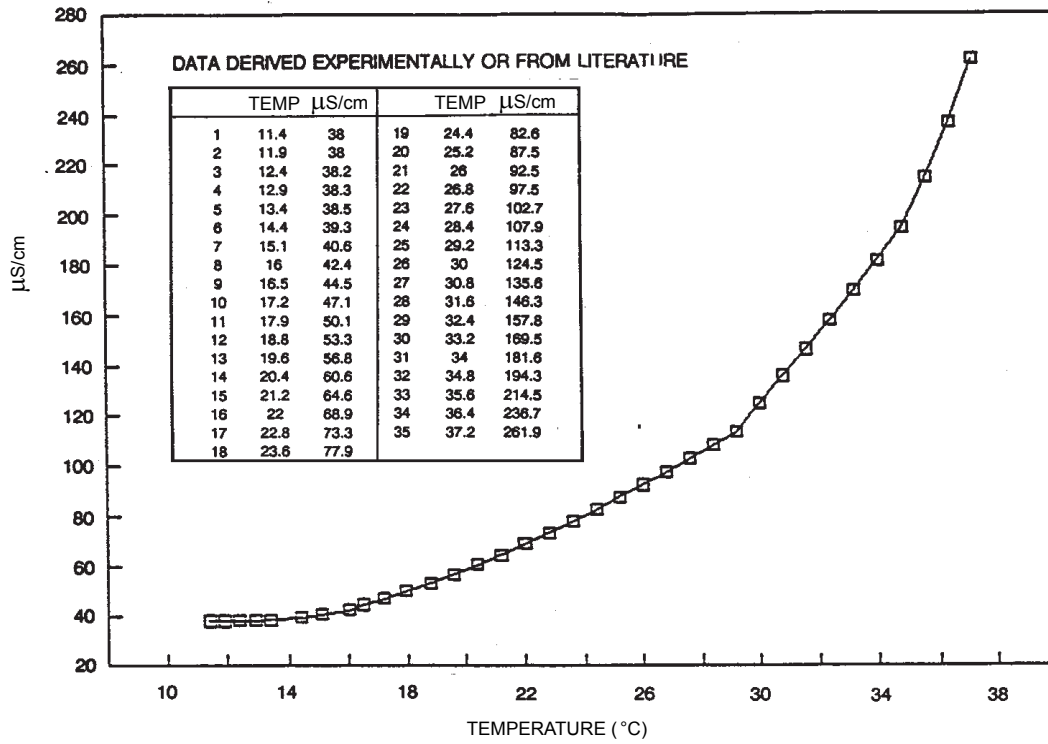
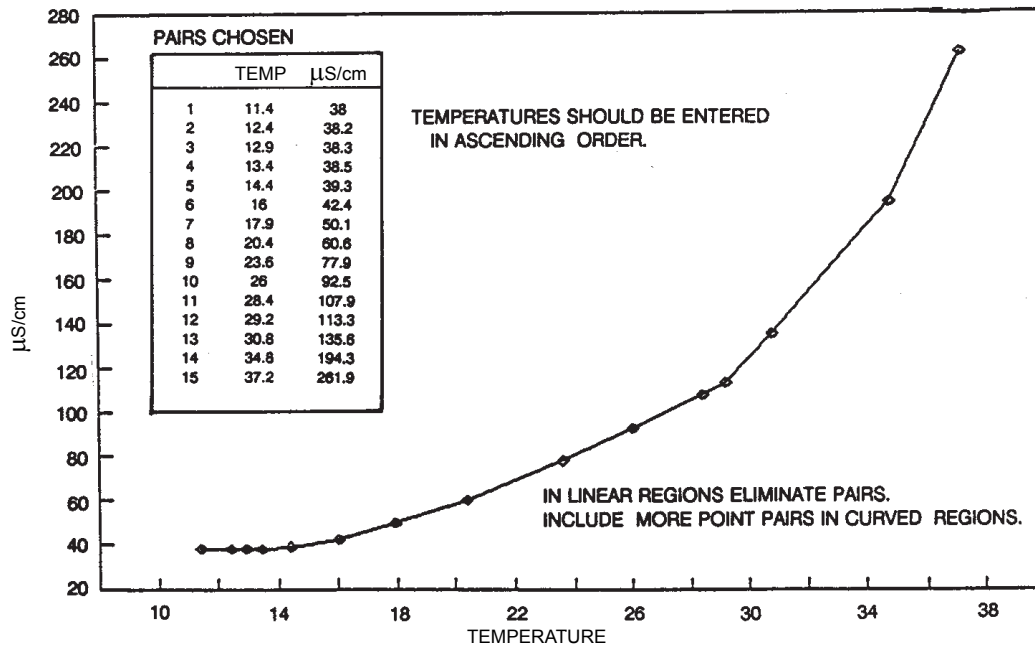

Figure 36. Reference Conductivity vs. Temperature Data
Figure 37. Configured Conductivity vs. Temperature Data
**Custom** If you selected this compensation, the prompts ask you to specify a reference temperature (Ref Temp) and a number of points (Num of Pts) to plot a compensation curve. The process specific compensation data must be generated or extracted in advance of entering it into the analyzer. We suggest that the data be plotted graphically as well as tabularly to prepare it for entry into your analyzer. See Figure 36.
A maximum or minimum temperature difference between successive temperatures is not required. The intervals do not have to be evenly spaced. We suggest 2 or 3 points be used in linear regions and more data points be used in curved regions. See Figure 36 and Figure 37.
In the example used in Figure 36 and Figure 37, the 35 reference points were reduced to 15 configured points. The configuration procedure would have been as follows: